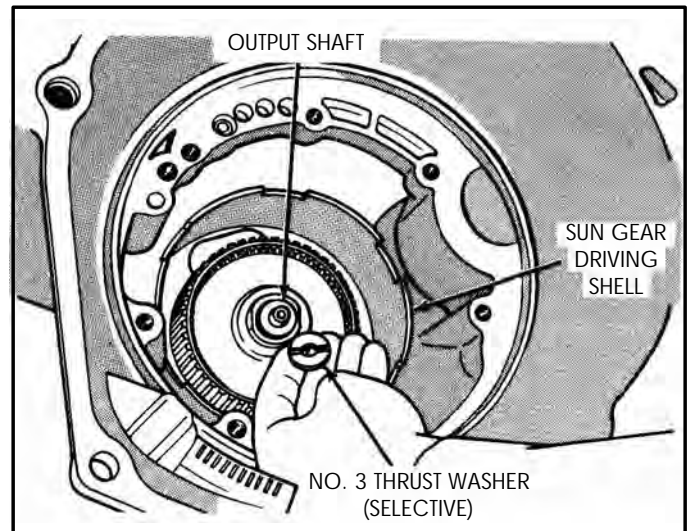

Figure 228
11. Install the number 3 thrust washer on top of the output shaft, as shown in Figure 228.